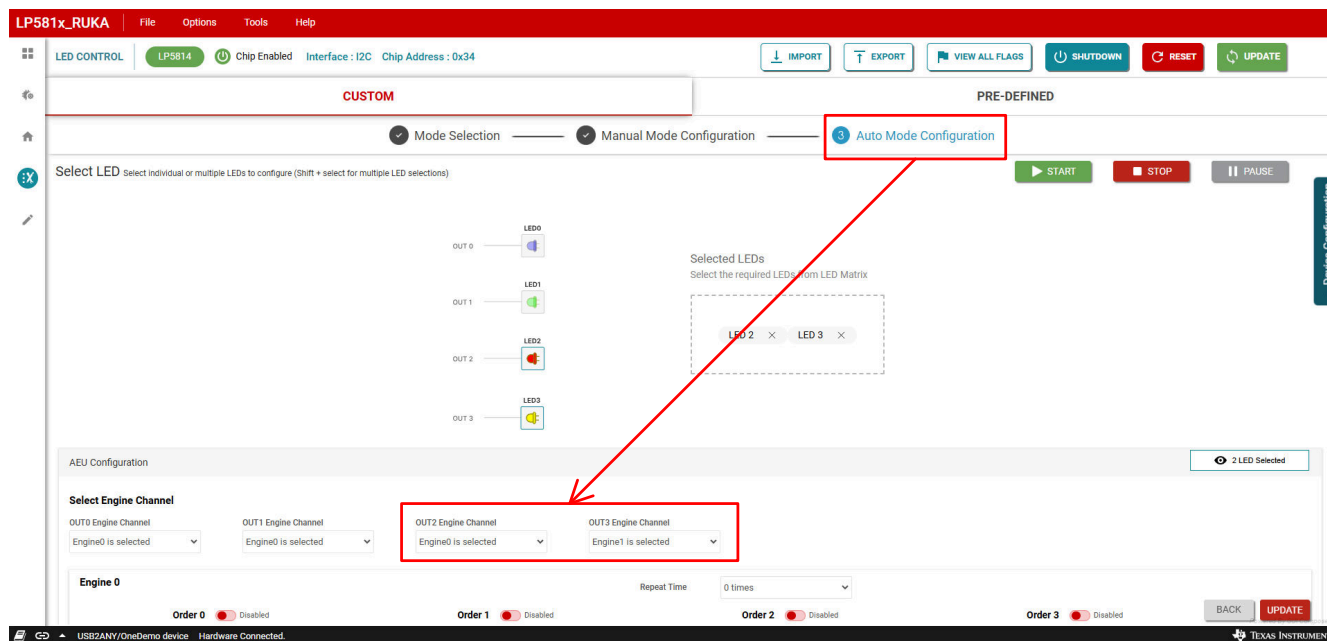

Figure 3-17. Engine Select
- Click the *Auto Mode Configuration* tab to open the patterns setting panel as shown in Figure 3-17.